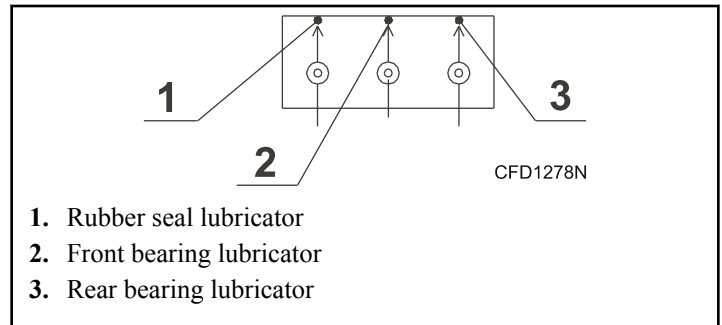

Figure 60
1. **33 kg/ 75 lb/335 L, 40 kg/90 lb./400 L and 55 kg/125 lb./520 L models** - Using a multipurpose lithium lubricant containing high pressure consistency addition (NLGI or ES-SO - BEACON EP 2) lubricate seal and bearings with 2 strokes (2 cm3) while the basket is rotating at wash speed. Refer to *Figure 60*.